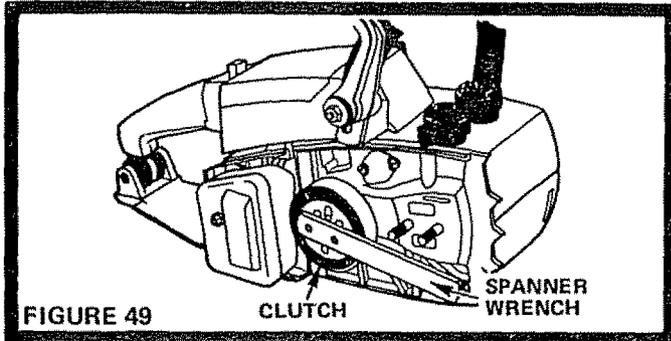

FIGURE 49
YOU WILL NEED A SPANNER WRENCH (FIG. 49) FOR CLUTCH REMOVAL. ORDER PART NUMBER 632A9A FROM YOUR NEAREST SEARS SERVICE CENTER.
3. Place Spanner Wrench in Clutch and turn clockwise to unscrew Clutch from Engine Shaft (Fig. 49).